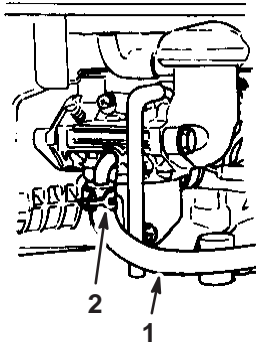

Figure 17
4. Remove the fuel tube by loosening the tube clamp at the carburetor (Fig. 17).